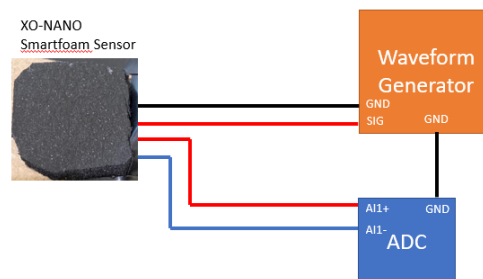

Figure 2 Generalized schematic for those not using an AD2. For the best results, have the Waveform Generator and the ADC on the same clock.
This document describes how to set up an XO-NANO pressure sensor demonstration as seen in Fig. 1. This demonstration of the sensor shows how the root-mean-square of the voltage (V_{rms}) changes with pressure. This instruction sheet shows steps for setting up pressure sensing with an Analog Discovery 2 (AD2) and an Arduino Uno; but, other data acquisition and signal generation devices can be used. If you choose to use your own waveform generator and ADC, follow the schematic in Fig. 2 and use the settings listed in the instructions found in the AD2 instructions section.
5. From the Waveform's welcome page, click on the Wavegen button and set up Wavegen 1 (waveform generator) to the desired signal (Example: 1kHz square wave with 2.5V offset and 2.5V amplitude or, in other words, a 5V PWM) as seen in Fig. 2. NOTE: square waves and sine waves work the best for this sensor. Feel free to adjust the amplitude between 1V-5V, the wave frequency (500Hz-10kHz), the sampling frequency, and the offset. The sensor should still react to pressure for a wide range of these input values.